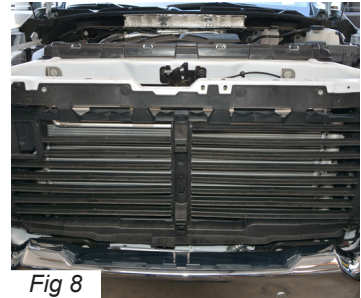

Fig 5
Step 4 Locate the bumper/fender trim panels located just below the headlights. Pull forward on the inner section where it meets the grill until the clips pop. These panels need to be loosened to remove the grill. Fig 5